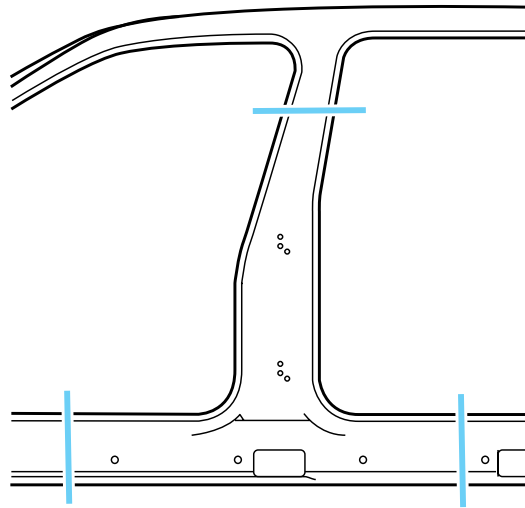

Fig. 1-5 — Outer Center Pillar – Sectioning Locations
1. Locate an approved sectioning area in the center pillar (Fig. 1-5).